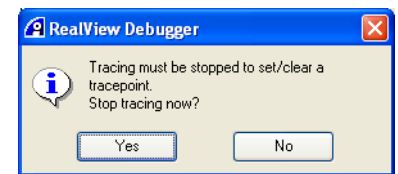

Figure 10-67 Prompt to stop tracing when setting a tracepoint
- f. Click **OK**. The New Tracepoint dialog box closes and the Prompt dialog box is opened. Figure 10-67 shows an example. To set a tracepoint on a running target, tracing must be disabled.